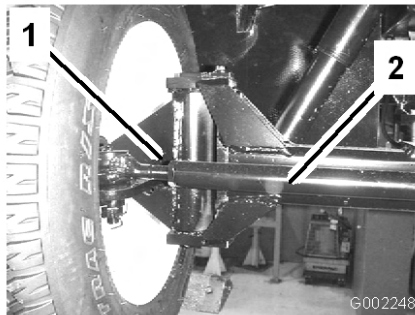

Figure 51
3. If the measurement does not fall within the specified range, loosen the jam nuts at both ends of the tie rod (Figure 51).